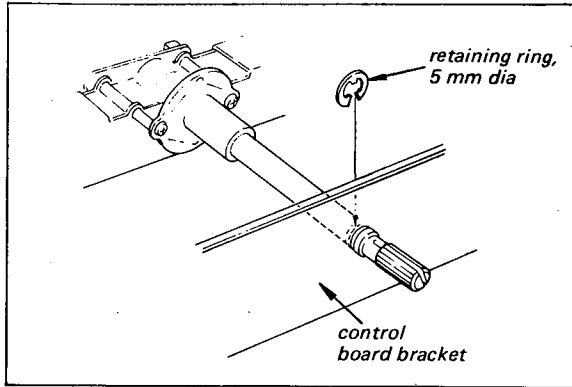

Fig. 2-8. Control board removal
1. Remove the retaining ring securing the defective switch, located at the back side of control board bracket, as shown in Fig. 2-8.